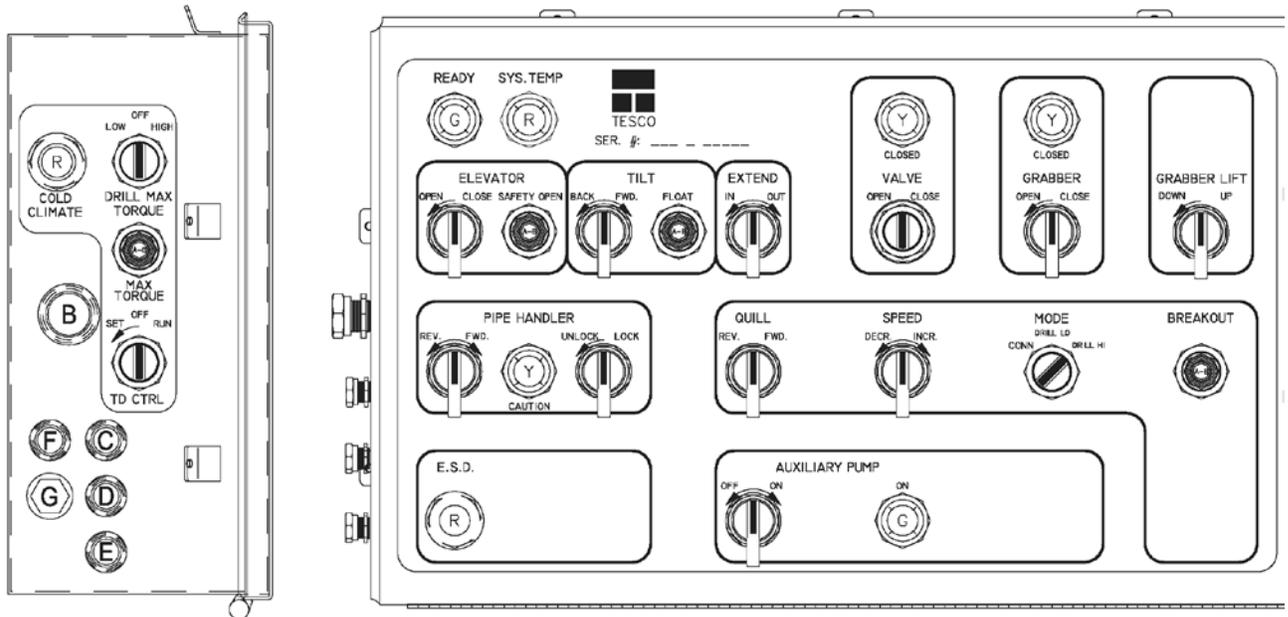

Figure 1: HXI driller’s panel
1. From the HXI Top Drive driller’s panel (Figure 1), set the MODE switch to ‘DRILL LO’ and QUILL switch to the middle (neutral) position.